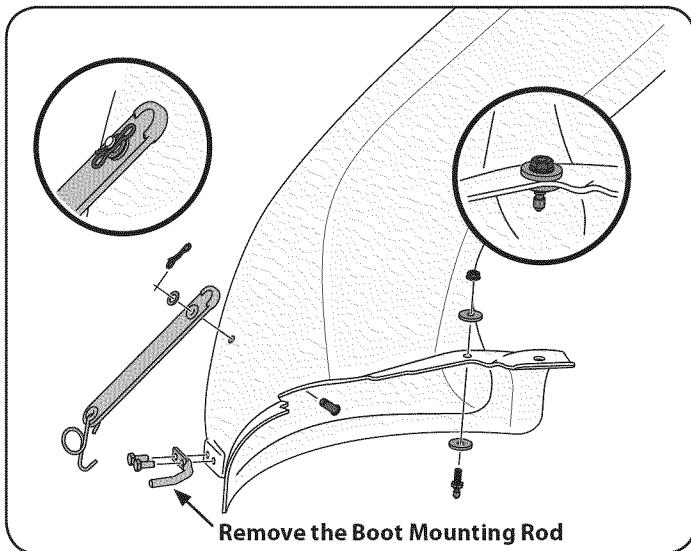

Figure 18
1. Install the rubber chute strap, from hardware pack 689-00313, onto the chute elbow using the clevis pin (711-05063), washer (736-0204) and Bow-tie cotter pin (714-04040) from hardware pack 689-00313. See Figure 18. Secure the end of the strap utilizing the hole furthest from the end, insert the torsion spring hook (732-04510A) into the other end.
**Note:** On decks with front deck wheels, the boot mount rod must be removed in order to install this discharge chute elbow onto the tractor. See Figure 18.
2. Install the deck mounting pin (711-05049) up into the chute elbow using two flat washers (736-0176) from hardware pack 689-00313 and secure with a flange lock nut (712-3027), as seen in Figure 18.